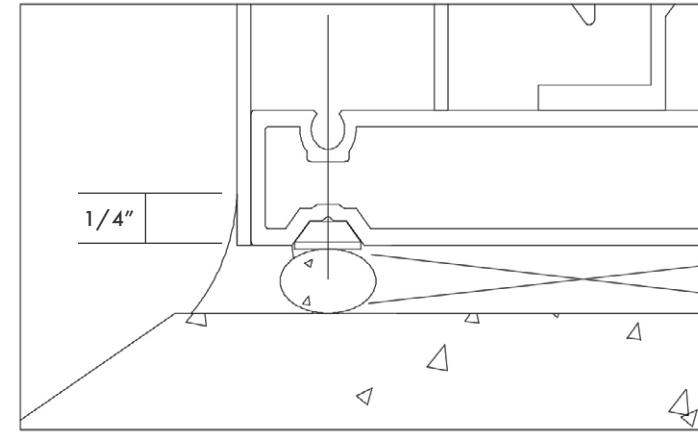

Fig. 9 Window seal with "Flush Adapter"
- H. To seal the perimeter use open cell backer rod as required. Apply sealant all around and project the seal up and out to cover the flange 1/4" (See Fig.9).